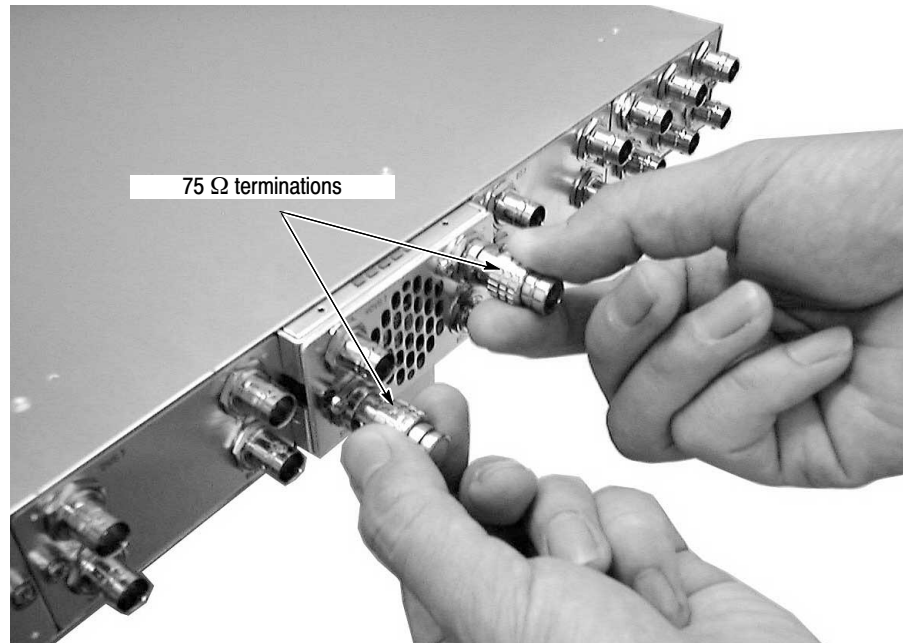

Figure 5: Removing the module
4. Pull the module slowly in horizontal direction back from the mainframe while supporting the terminations or BNC cables attached to the connectors. See Figure 5.